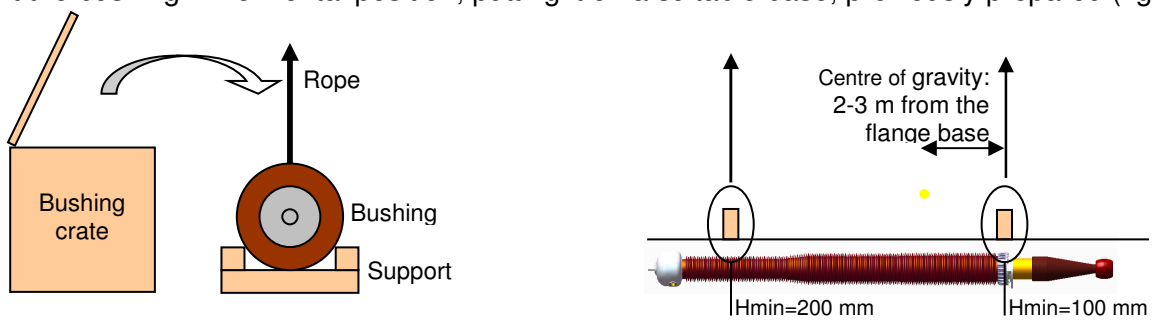

Fig. 5c
- Lift the bushing in horizontal position, putting it on a suitable base, previously prepared (fig. 5c).